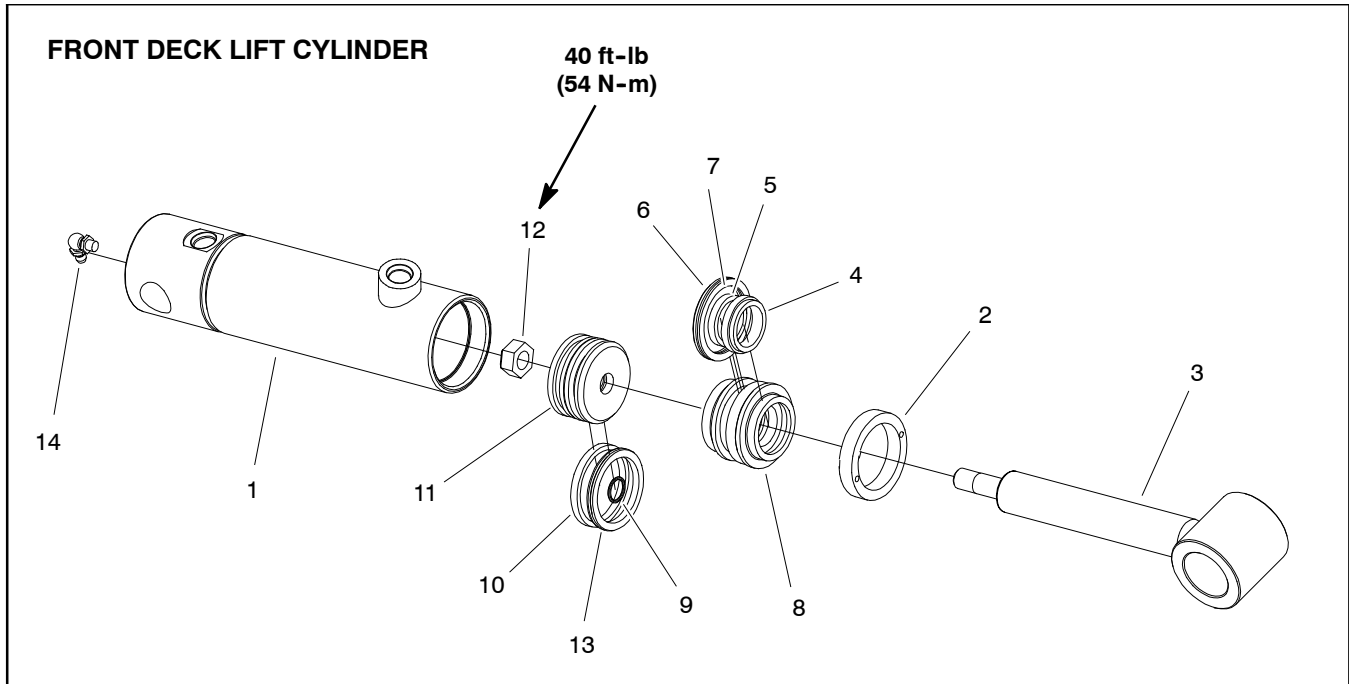
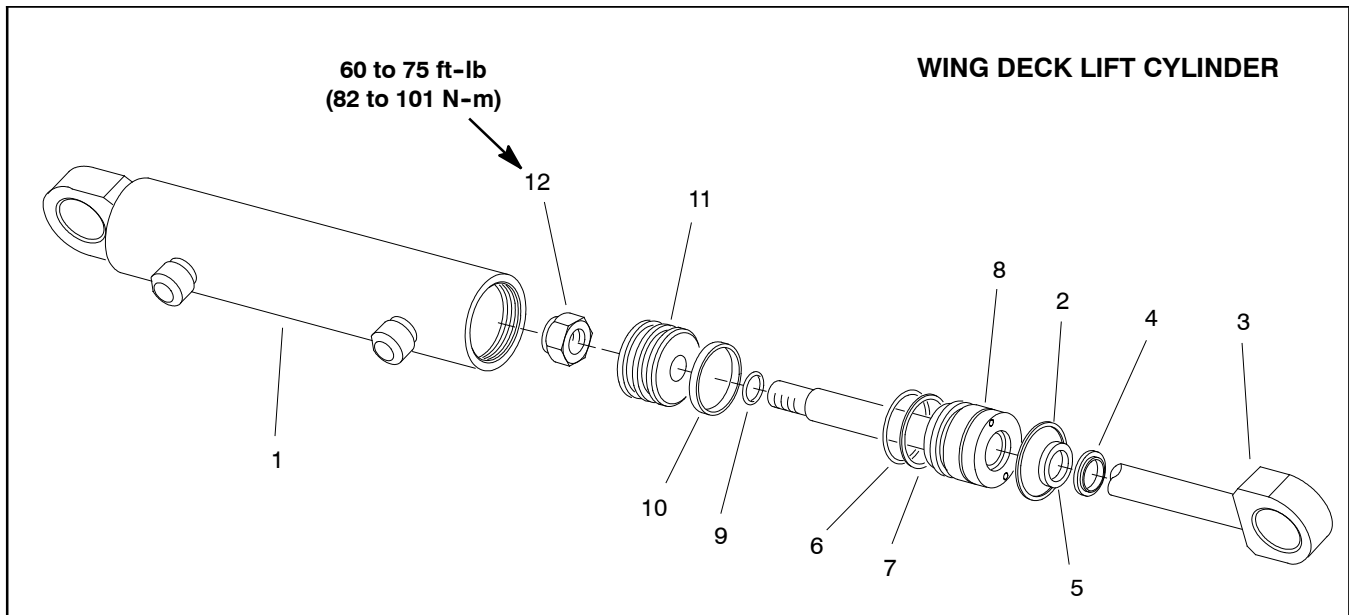

Figure 105
Figure 106
Disassembly (Figs. 105 and 106)
3. For front deck lift cylinder, use a spanner wrench to loosen and remove internal collar (item 2 in Fig. 105) from barrel.
Assembly (Figs. 105 and 106)
D. Torque lock nut to specification in Figure 105 (front deck lift cylinder) or Figure 106 (wing deck lift cylinder).
6. For front deck lift cylinder, use a spanner wrench to install and tighten internal collar (item 2 in Fig. 105) into barrel.